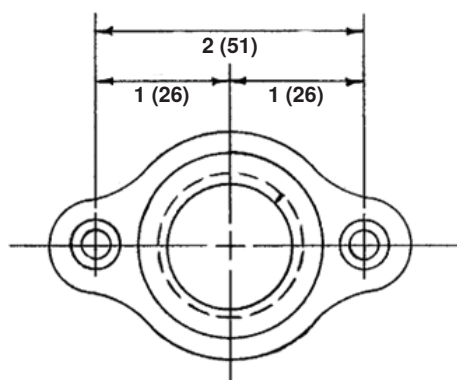

Figure 27. Waste Nut
1. Using waste nut (see Figure 27) as template, drill three holes—one 3/4-inch drain hole and two 1/4-inch fastener holes in furnace cabinet's bottom pan.